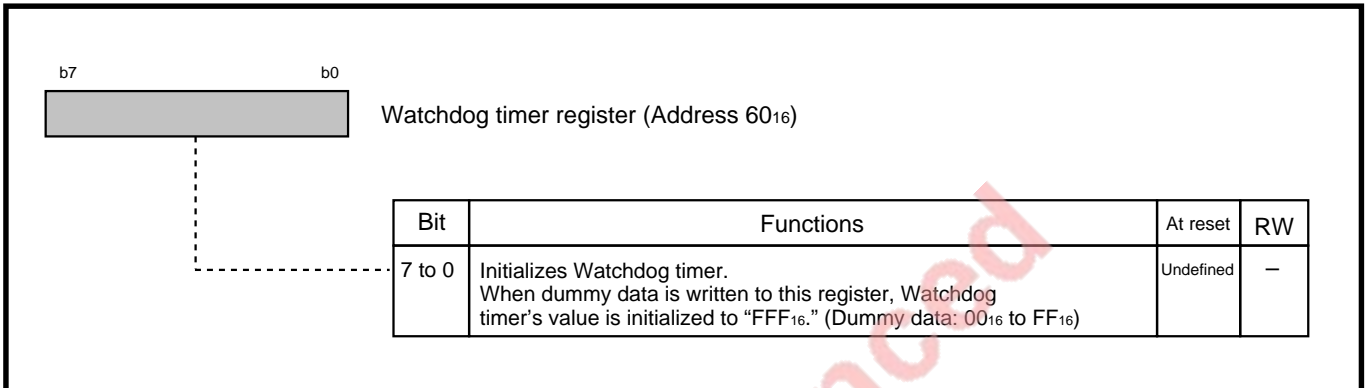

Fig. 15.1.2 Structure of watchdog timer register
- When dummy data is written to the watchdog timer register (Refer to "Figure 15.1.2.")